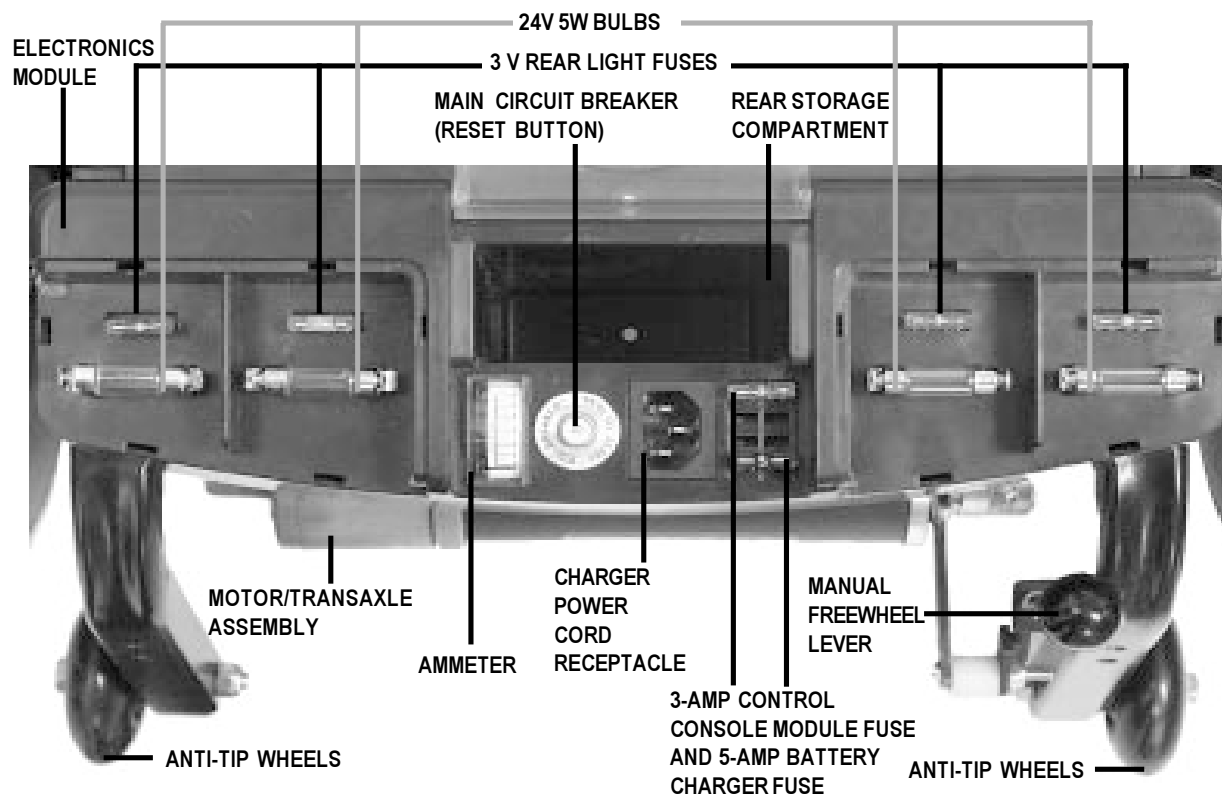

FIGURE 8. REAR SECTION (LIGHT COVERS REMOVED)
The rear section contains the electronics module, bulbs and fuses for the rear lights, fuses for the front console and battery charger, the main circuit breaker (and reset button), the manual freewheel lever, the charger power cord receptacle, the motor transaxle assembly, and the ammeter. See figure 8. The onboard battery charger and the batteries are also contained in the rear of your Scooter, but are not visible in figure 8. The anti-tip wheels are at the rearmost part of your Scooter.
- The manual freewheel lever is located on the end of the motor/transaxle assembly at the right rear of the Scooter. See figure 8.